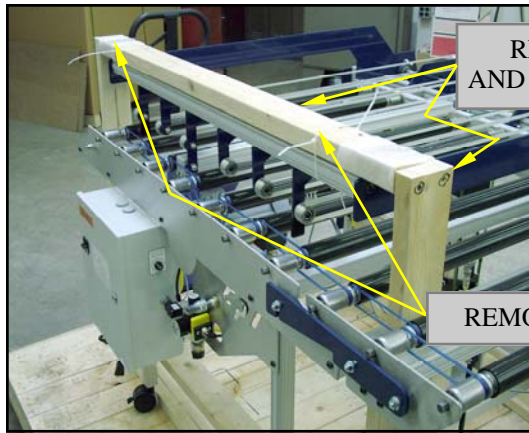

Figure 1
1. Remove **only** the shipping blocks and banding straps that stabilized the Q2K Plus during shipment, as shown in Figure 1 and Figure 2. This will allow the Q2K Plus to be lifted from the shipping skid. (The infeed belt section blocks will be removed in Step 10-C)